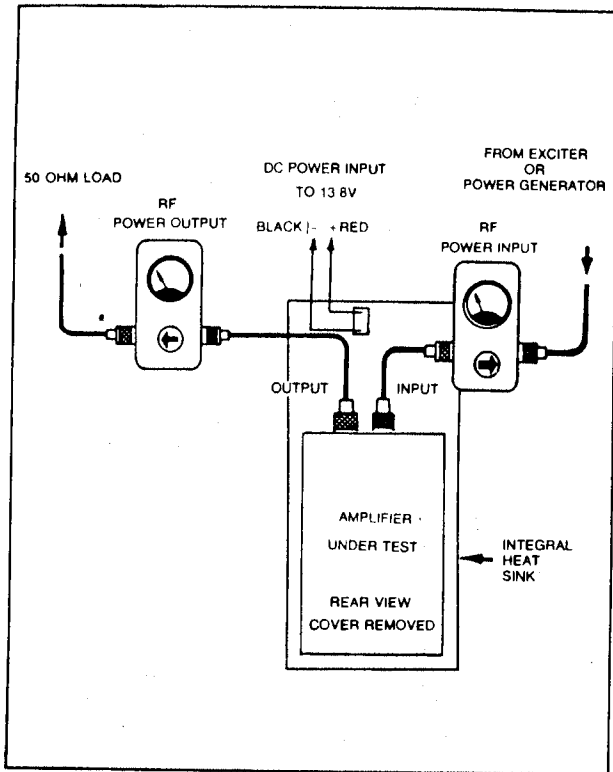

FIGURE 2 - AMPLIFIER TEST SET-UP
- (1) Set the transceiver or transmitter to the center of the desired frequency range.
- (2) If possible adjust the power amplifier in a test set-up similar to that shown in Figure 2.
- (3) The following equipment will be needed for proper alignment:
- a. Bird 43 thru line watt meter (2)